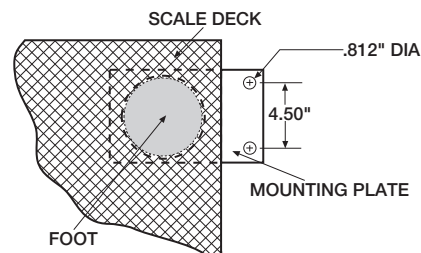

Figure 2-2. Mounting Plate Installation
3. Lower the scale back to the floor, and position the plates as shown in Figure 2-2 so that the bolt down holes are accessible from above.